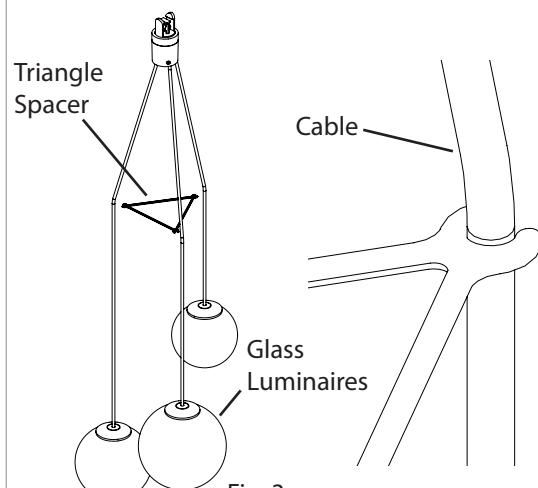

Fig. 4
4. Rotate the **Luminaire** to the desired position and secure by fully tightening the **Hanger Cap** (Fig. 4).
1. Place the **Triangle Spacer** in between the **Cables** of the fixture (Fig. 3). Snap the pendent Cables into the Spacer at three locations (Fig. 4). **Note:** Make sure **Glass Luminaires** are screwed on tightly.
1. Install the included **G4 Bulb**. (Fig. 4)